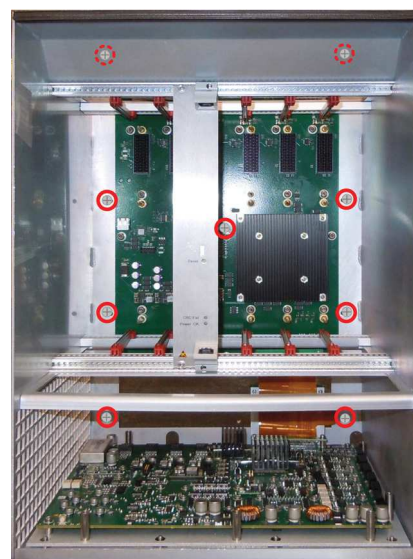
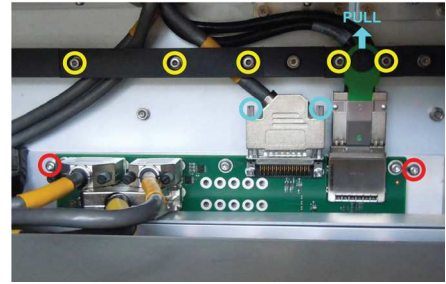

Fig. 7.21 Screws
Fig. 7.22 Support and cables
- 6 Using screwdriver (tools 1/5), loosen 10 captive screws/washers fixing the Frame Assy to the back plate. The location of these is shown with red circles in Fig. 7.21 \(p. 129\). The two upper screws (dotted red circles) are accessible above the Frame Assy (marked with red circles in Fig. 7.22 \(p. 130\)).
- 8 Using Allen 3 mm screwdriver (tools 1/3), remove 5 screws and washers holding two cable supports - shown with yellow circles in Fig. 7.22 (p. 130). Remove the two cable supports.
- 9 Referring to Fig. 7.22 (p. 130), pull the green ring upwards on the rightmost connector to release it from the Motherboard (light blue arrow).
- 12 Mount the connectors removed in step 9 and mount the cable supports removed in step 8 (Fig. 7.22 (p. 130)).